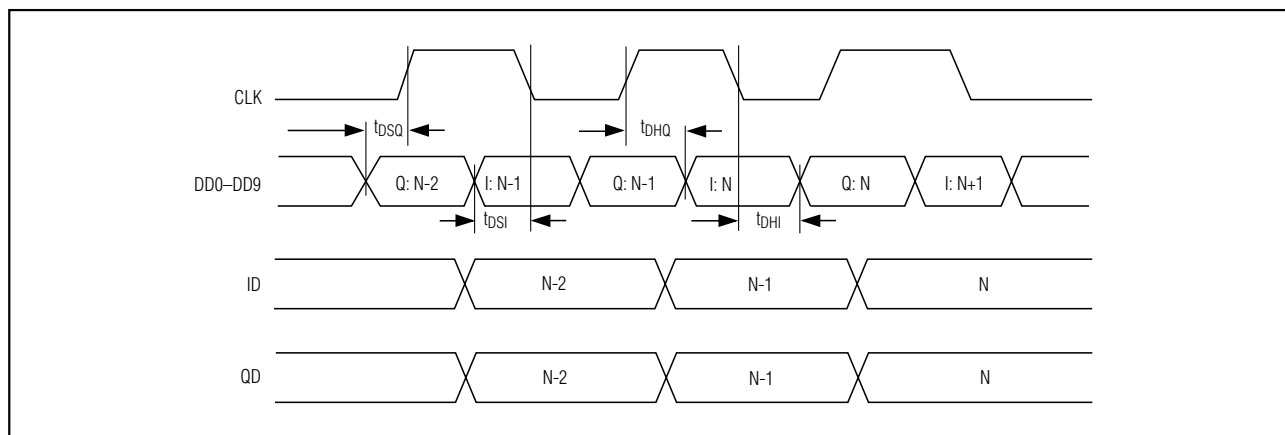

Figure 4. DAC System Timing Diagram
Figure 4 shows the relationship between the clock, input data, and analog outputs. Data for the I channel (ID) is latched on the falling edge of the clock signal, and Q-channel (QD) data is latched on the rising edge of the clock signal. Both I and Q outputs are simultaneously updated on the next rising edge of the clock signal.